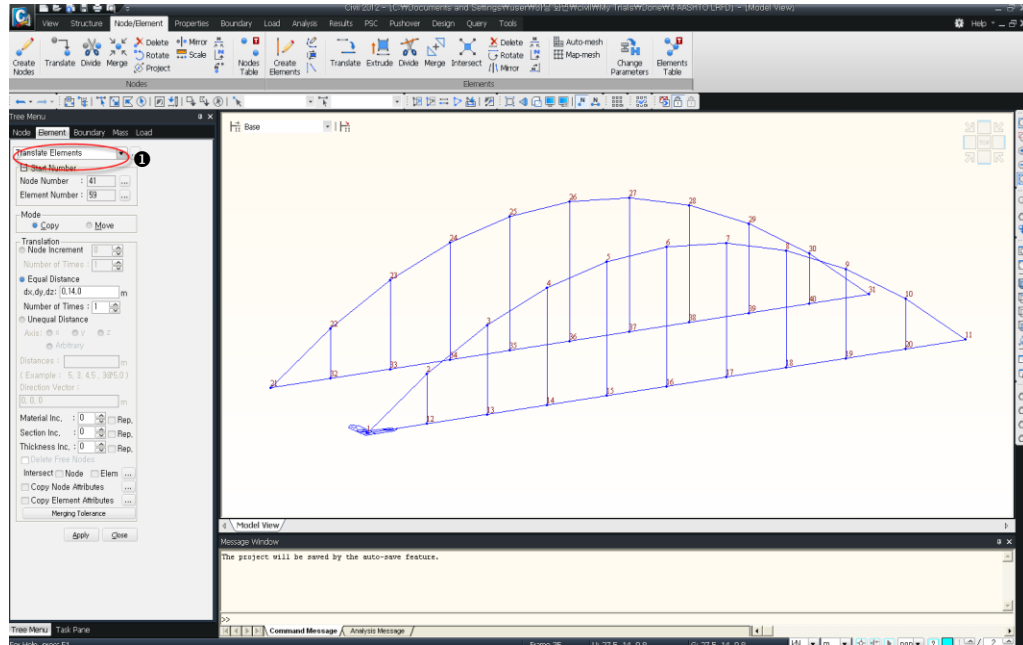

Figure 4.10 Completed Main Girders and Arches
The **hanger web** direction is modified to be perpendicular to the bridge longitudinal axis as shown in Figure 4.10 (also refer to the section on **Beta Angle** in the Online Manual).
11. Click  **Translate Elements**(Figure 4.10-🗣).
16. Click  (Figure 4.10).